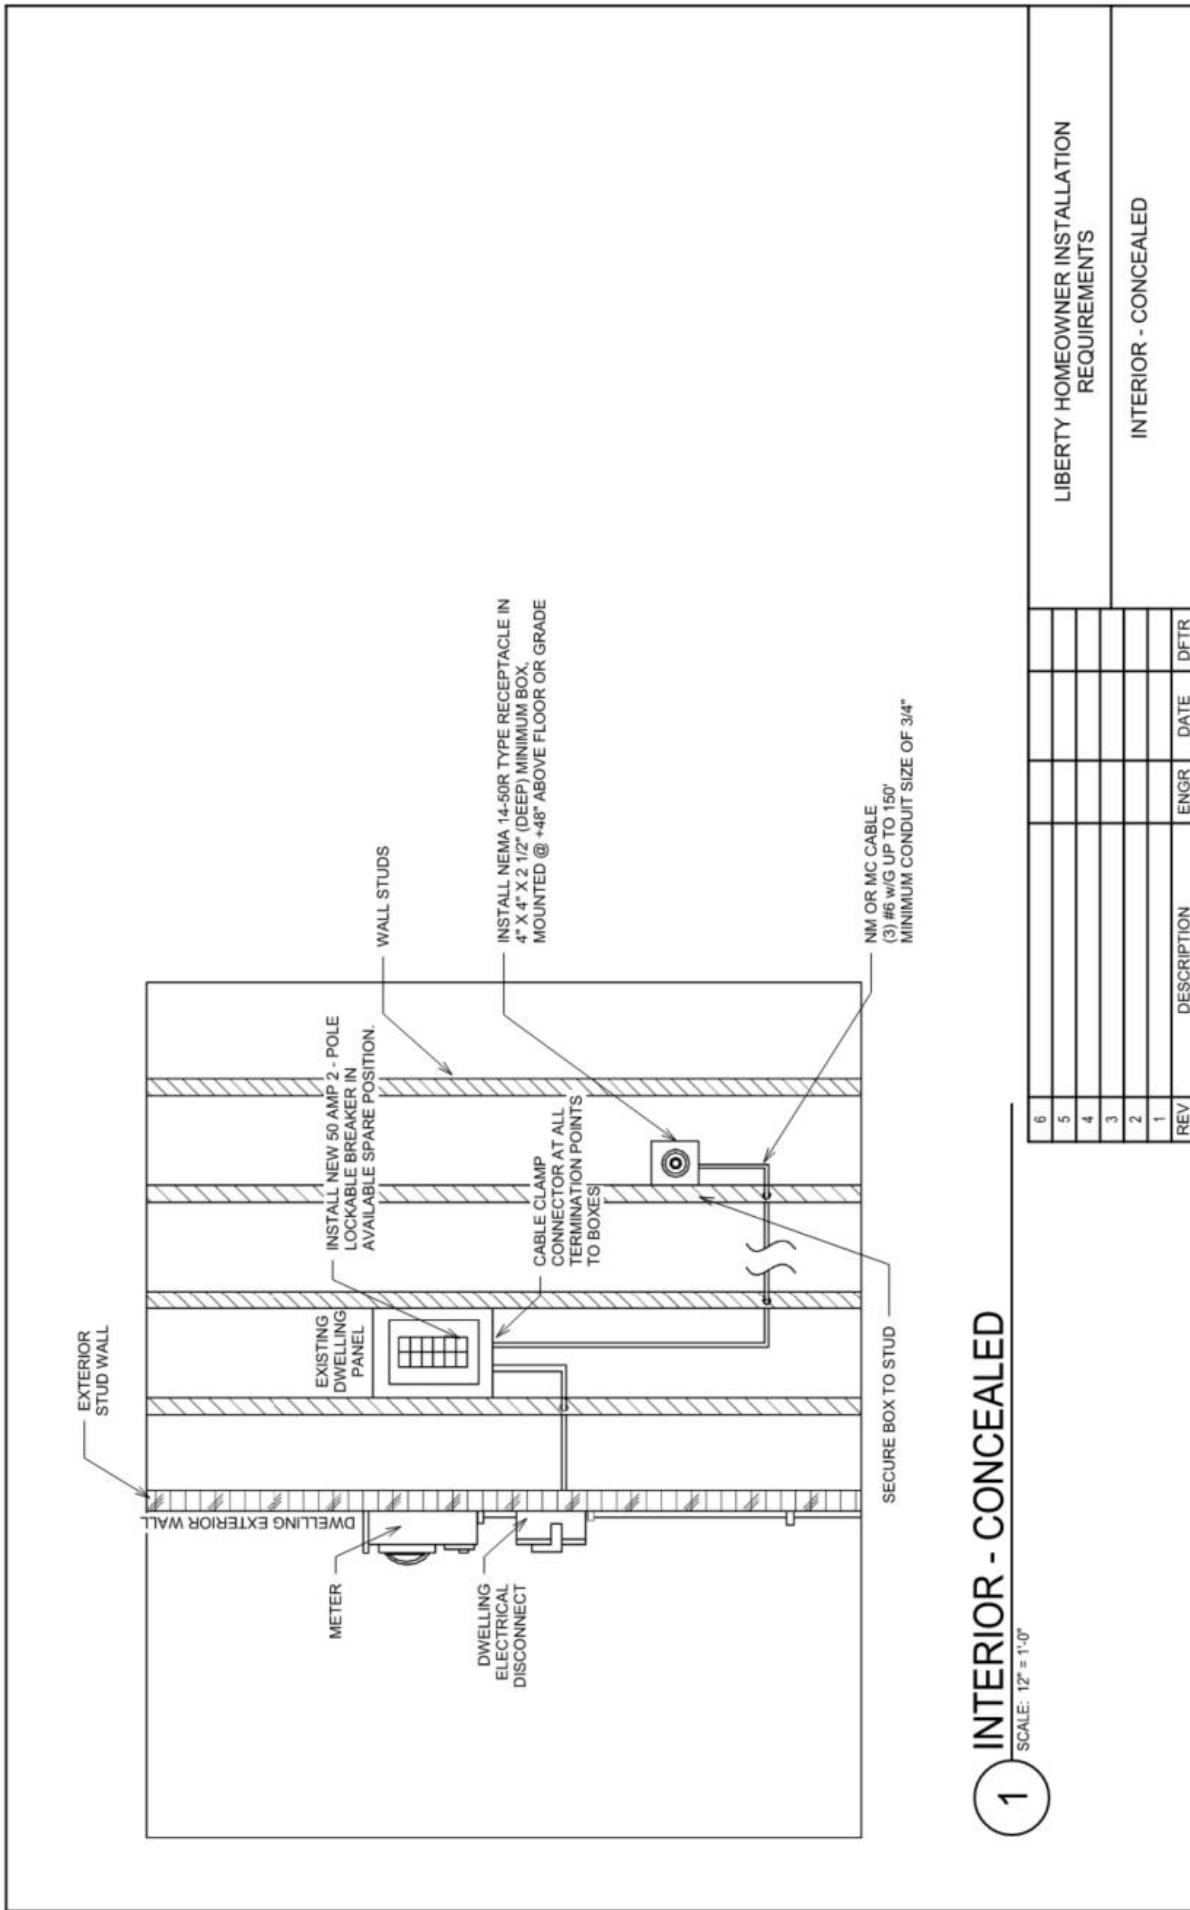

Figure 1: General diagram of indoor installation with branch circuitry installed within walls
- Figure 1: General diagram of indoor installation with branch circuitry installed within walls**